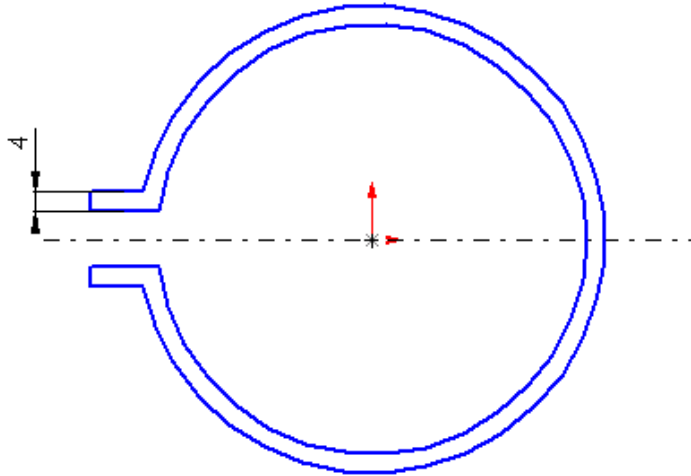

Figure 2-54 Final sketch for Tutorial 3
8. Using the left mouse button trim the unwanted entities. Refer to Figure 2-54.
The final sketch is shown in Figure 2-54.